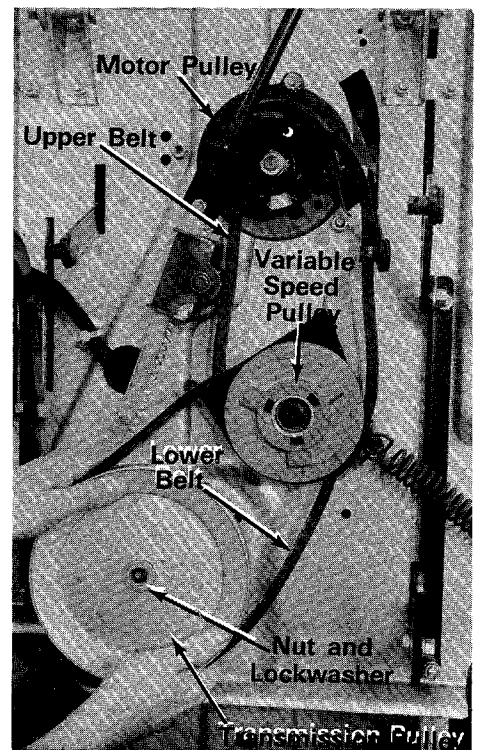

Figure 27
- 5 Remove the nut and lockwasher on the transmission pulley and pull the pulley off the spindle. (See figure 27.)